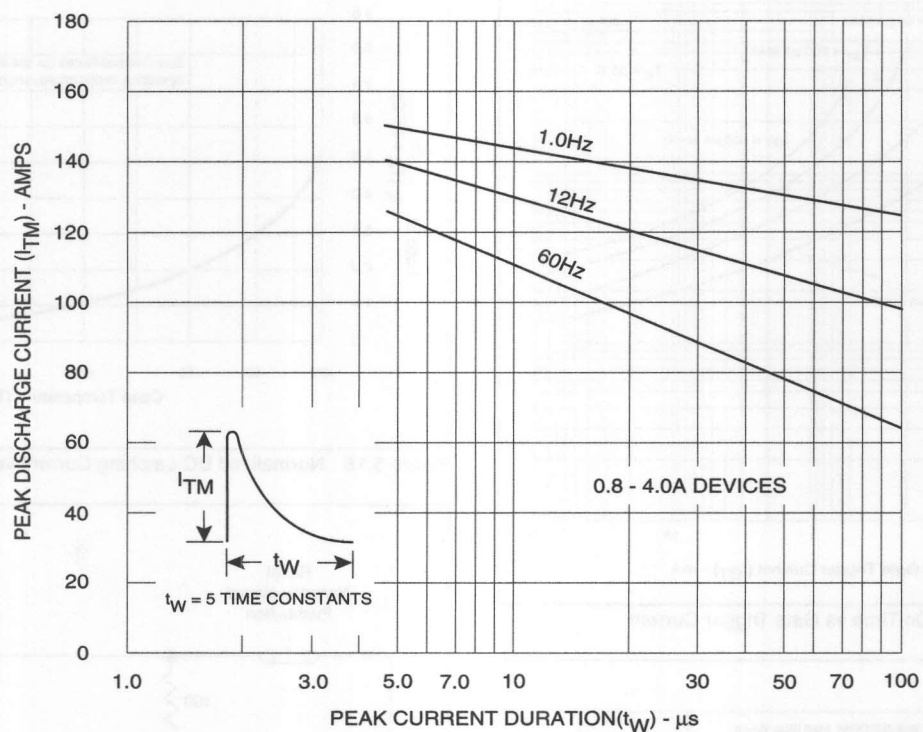

Figure 5.20 Peak Repetitive Capacitor Discharge Current
- 0.8 - 4.0A devices also have a pulse peak forward current on-state rating (repetitive) of 75A. This rating applies for operation at 60Hz, 75°C maximum tab (or anode) lead temperature, switching from 80V peak, sinusoidal current pulse width of 10 μ s minimum, 15 μ s maximum. See Figures 5.20 and 5.21.